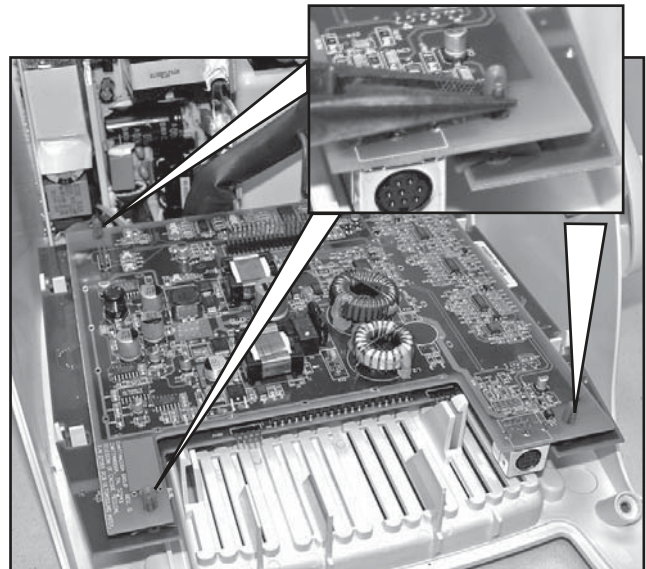

FIGURE 6.34
3. Gently and firmly pull up the back corners of the Ultrasound Board and use the Needle Nose Pliers to release the board from the Blue Stand offs in each corner of the Ultrasound Board. See Figure 6.34.
5. Use the Needle Nose Pliers to release the Ultrasound Board from the front Stand Offs. See inset in Figure 6.34.